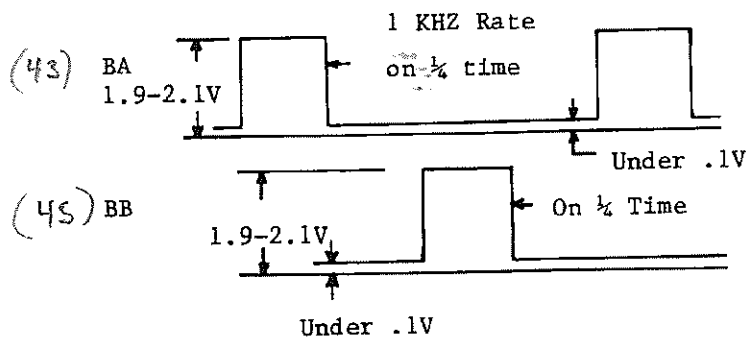

FIGURE 3
- C. Move CHAN A to BA (Term 43), 1V/DIV. CHAN B to BB (Term 45), 1V/DIV. Synch on channel A. Check per Figure 3.
Like Figure 3 Condensed